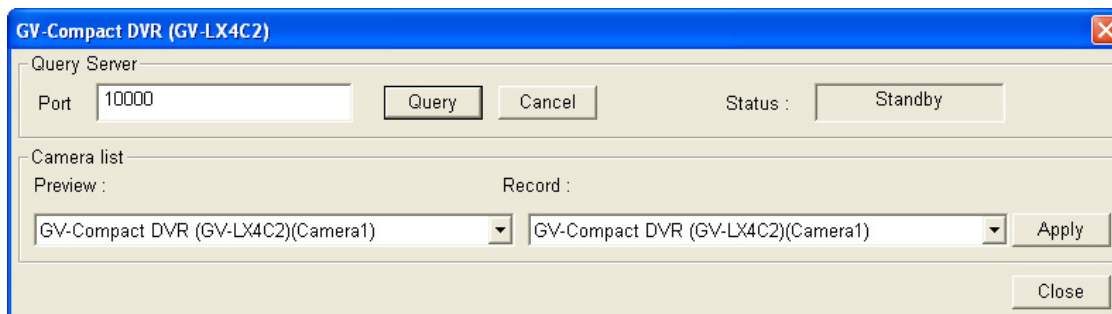

Figure 10-4
- **Preview dual stream record channel:** The option is only available when the dual stream is selected, i.e. the cameras for live view and recording are configured differently (see Figure 10-4). Check this option for recording preview.